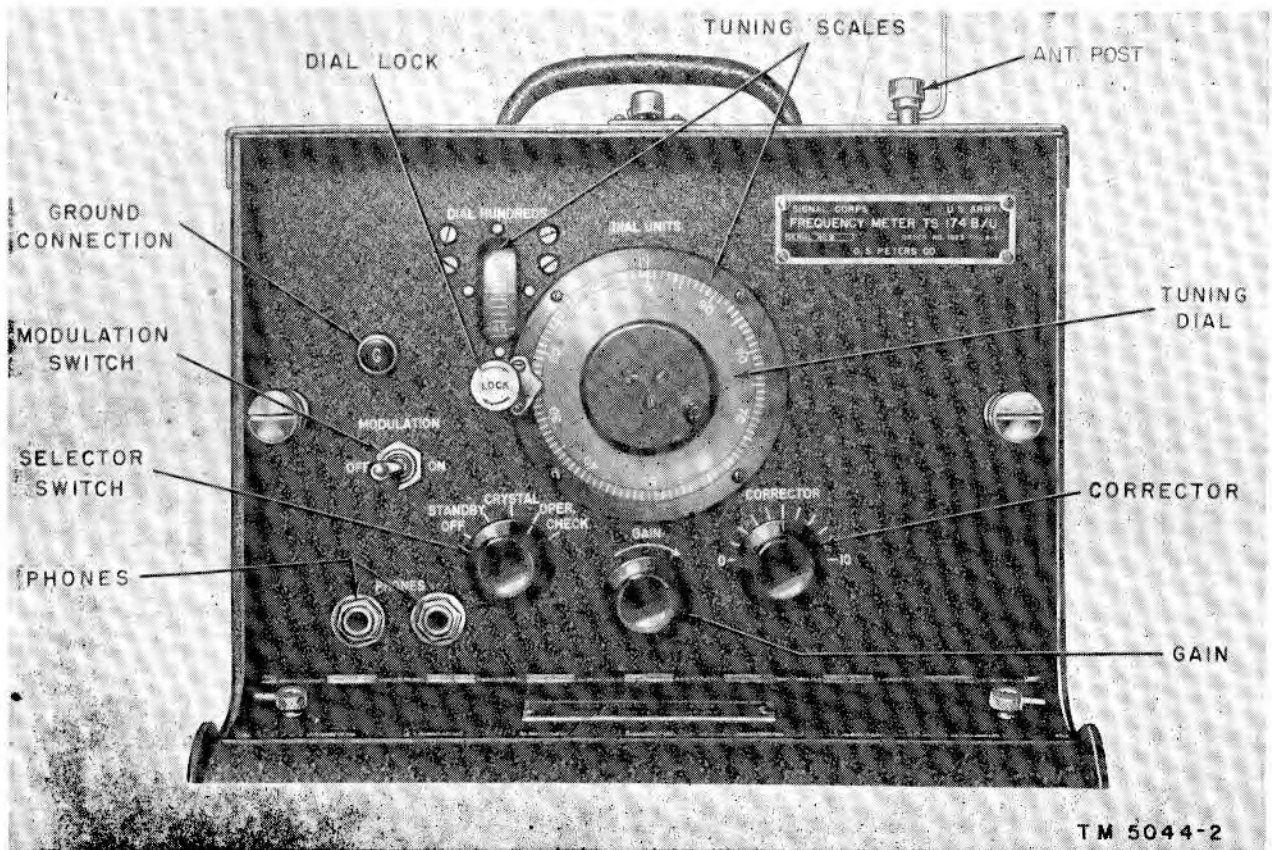

Figure 4. Front panel of Frequency Meter TS-174B/U.
a. Frequency Meter TS-174B/U is a three-tube heterodyne frequency meter designed to operate over a range of 20 to 250 mc. The front panel (fig. 4) contains a calibrated tuning dial; a ground connection marked G; a MODULATION OFF-ON switch; a selector switch marked OFF, STANDBY, CRYSTAL, OPER., and CHECK; an audio GAIN control; and a CORRECTOR control marked from 0 to 10 divisions. In the lower left-hand corner of the panel are two PHONES jacks.
(fig. 4)
DREDS). This is the drum dial behind the small window (fig. 4). The lines across the window act as the index.